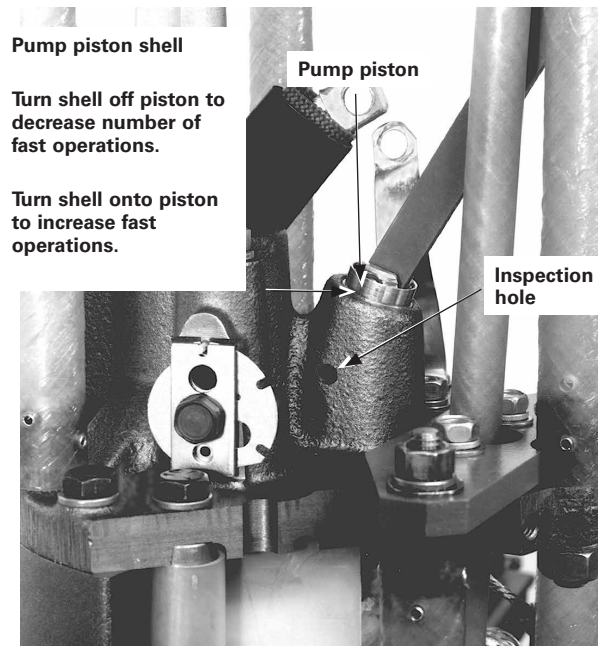

Figure 41. Location of inspection hole in casting
Initially, it is necessary to verify the position of the pump piston shell on the pump piston. (Refer to Figure 41).
- C. If the recloser trips too soon (roll pin below desired height), turn the self-locking nuts counterclockwise (downward, or off the recloser). Refer to Figures 41 and 44.
- B. If the recloser is performing too many fast operations, turn the piston shell counterclockwise slightly (off the pump piston) refer to Figure 41. Repeat the test.
- C. If the recloser is performing too few fast operations, turn the piston shell clockwise slightly (onto the pump piston) as shown in Figure 41. Repeat the test.